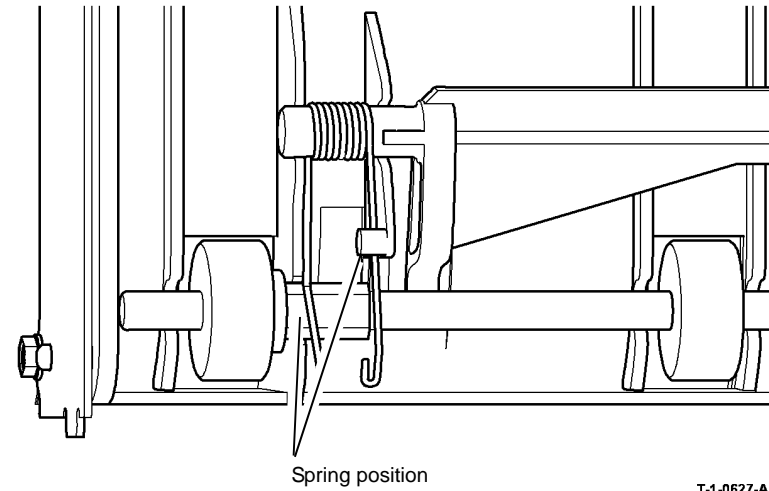

Figure 3 Location of the spring
2. Check that both springs are positioned correctly, Figure 3.